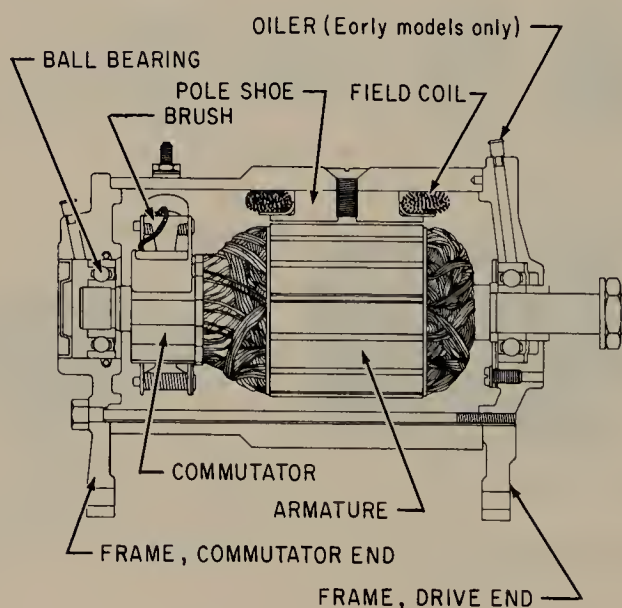
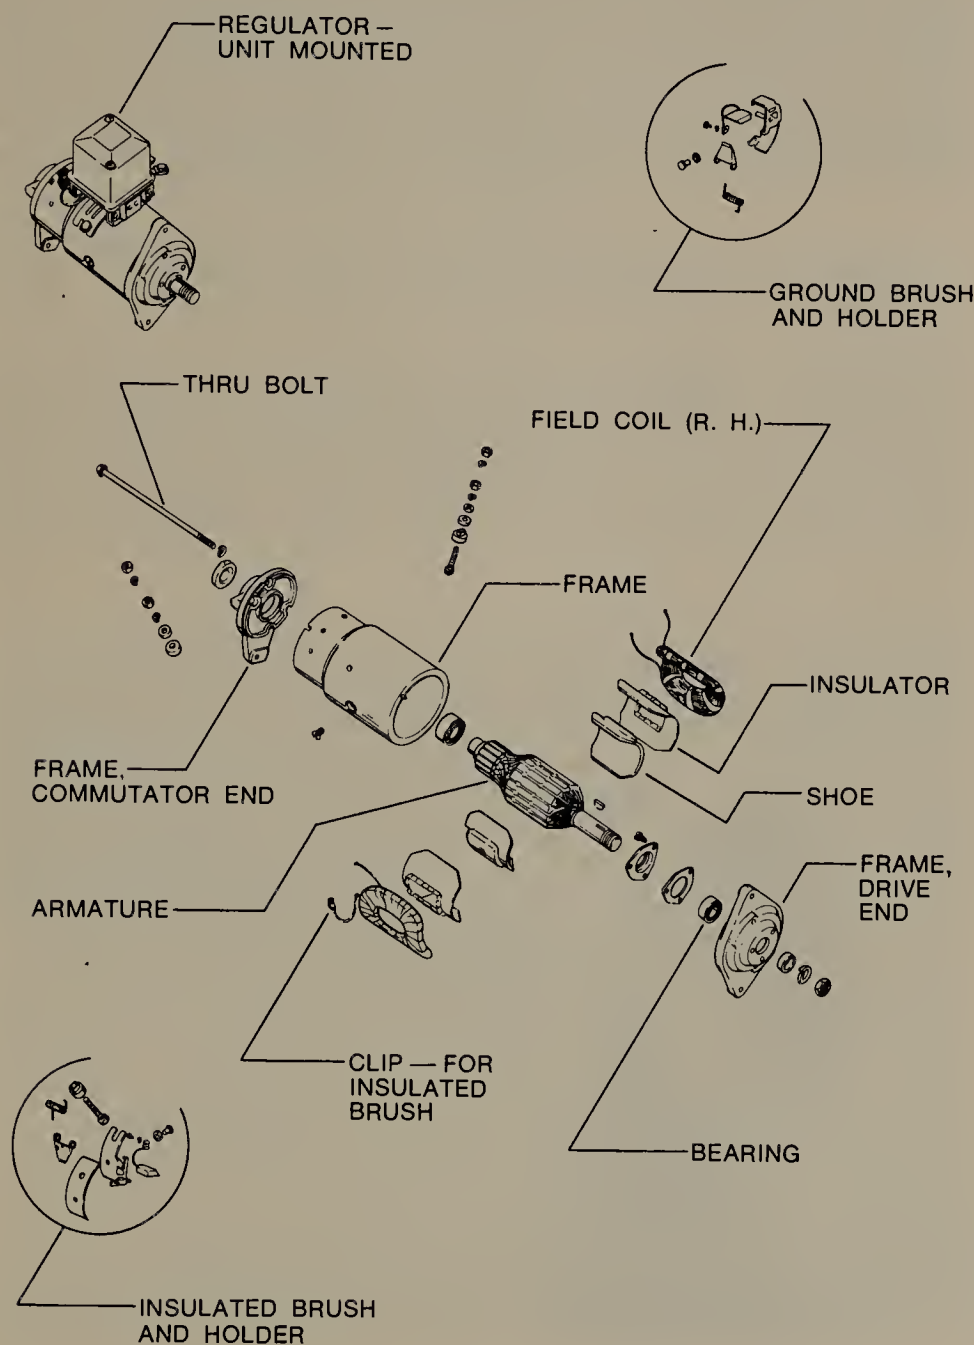

FIGURE 13.14 Sectional view of a starter-generator. (Kohler Company.)
FIGURE 13.15 Disassembled view of a starter-generator. (Kohler Company.)
rent for lights and other electrical equipment that is connected. In some small engines, the generator is a separate unit. But more often small engines will have a single unit that combines the generator and the starter. Inasmuch as the separate direct-current generator is not commonly used on small engines, we will not cover it in detail but will, instead, concentrate on the much more common starter-generator. Actually, servicing procedures are very similar for the two because they are very much alike in construction. Figure 13.14 is a sectional view of a starter-generator, and Fig. 13.15 shows this unit disassembled.
2. *Brushes.* Brushes should be checked about every 200 hr of operation. On the unit shown in Fig. 13.15, this requires removal of the two thru bolts and the commutator end frame. Brushes should be making good contact with the commutator and not be excessively worn. If they are worn to less than one-half of their original length, they should be replaced. Proper brush-spring tension is important and